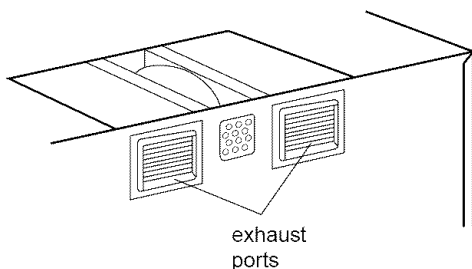

Figure 16
6. Place blower unit back into cabinet. Check that the exhaust ports face towards the rear of the cabinet. See **Figure 16**.